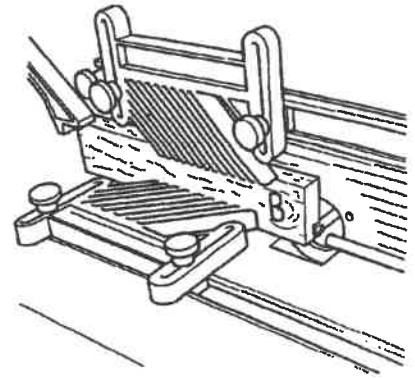
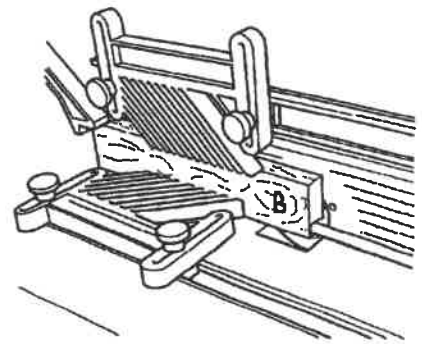

Fig. D-24
Fig. D-25
11. Adjust both feather boards against workpiece "B", as in Fig. D-24.
12. Turn on the Dust Collector and router. Use a push stick to feed workpiece "B", as in Fig. D-24. Fig. D-25 shows the completion of the cut.